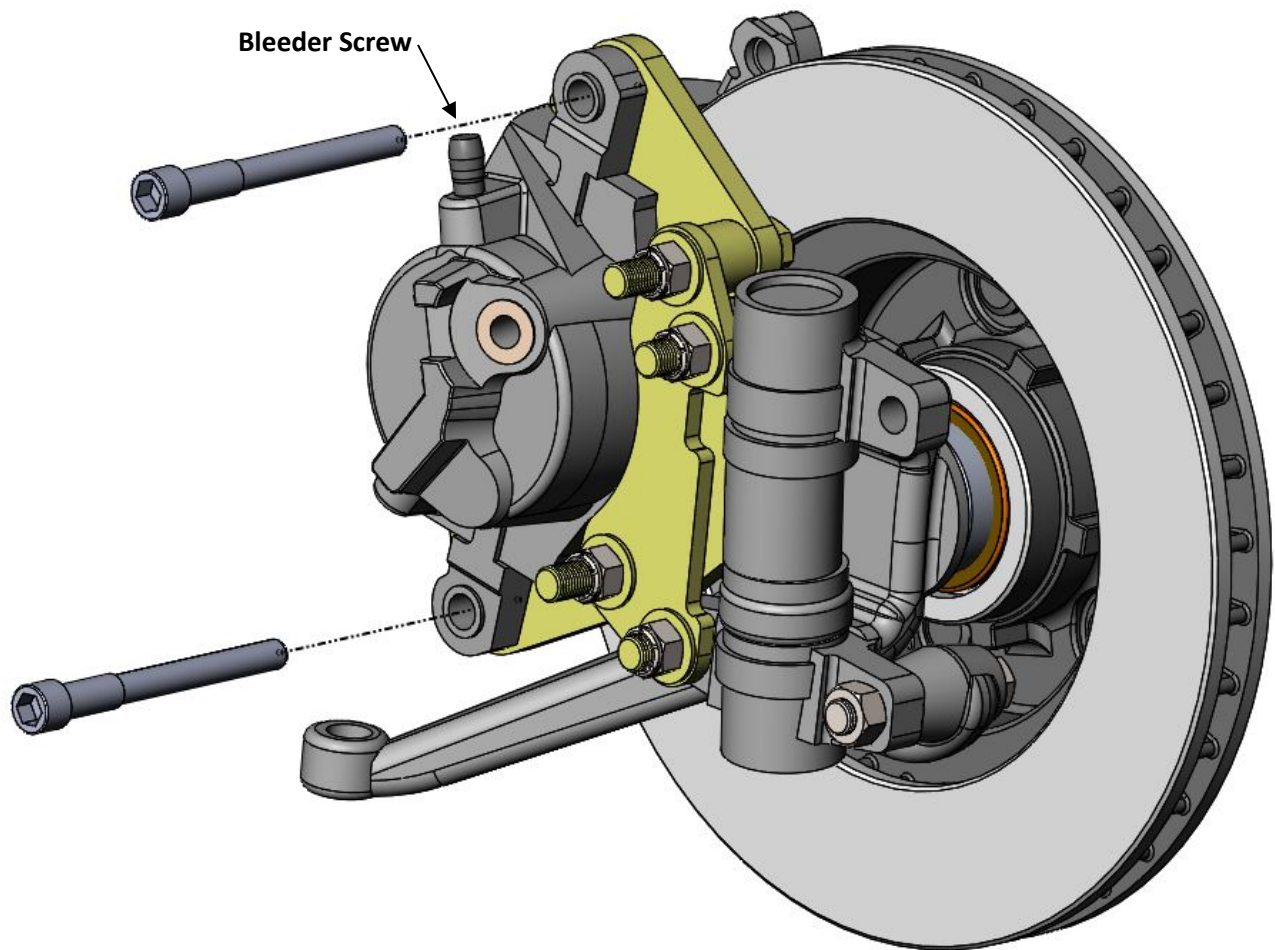

Figure 7 – Caliper Bolt Installation (Driver Side Shown)
10. Mount the caliper to the caliper mounting bracket. With the pads installed in the caliper, slide the caliper over the rotor and line up the mounting ears of the caliper with the holes in the caliper mounting bracket. Tighten and torque the bolts to 45 ft/lbs. **NOTE:** When installing the calipers, make sure the brake bleeders are pointing upward. See Figure 7 below for reference.